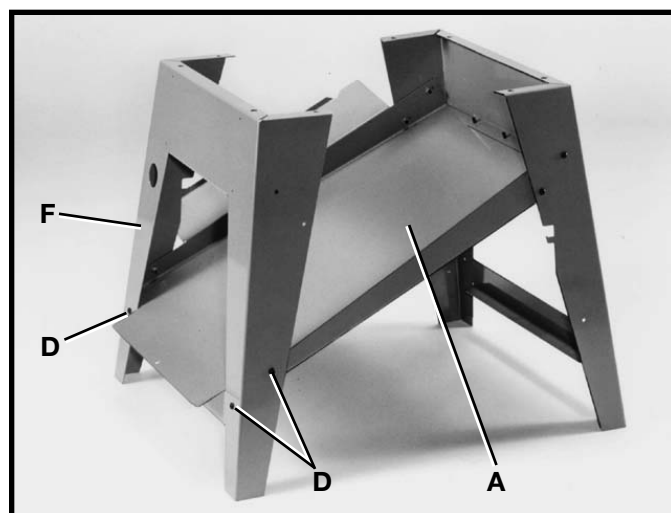

Fig. 10
2. Assemble the other end of dust chute and support panel (A) Fig. 10, to rear stand panel (F) as shown with four #10-32 x 1/2 screws and hex nuts, three of which are shown at (D). **NOTE:** Do not completely tighten stand hardware at this time.